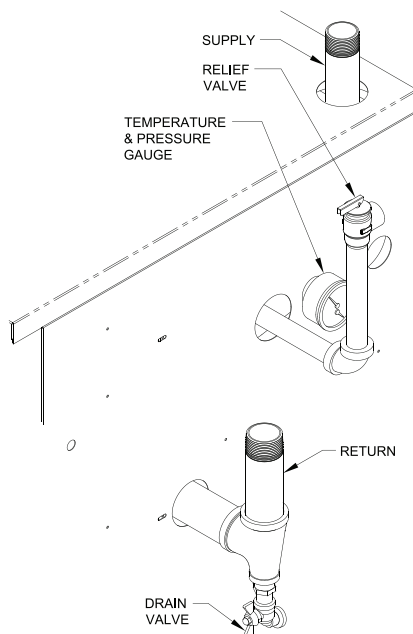

Figure 2: Near Boiler Piping
- C. **Install Safety Relief Valve.** See Figure 2. Safety Relief Valve must be installed with spindle in vertical position.
- D. **Connect system supply and return piping** to boiler. Refer to Figures 2, 3, 4, & 5. Maintain minimum 1/2 inch clearance from hot water piping to combustible materials.